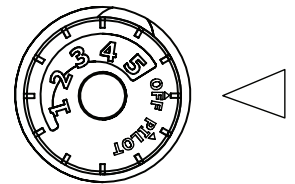
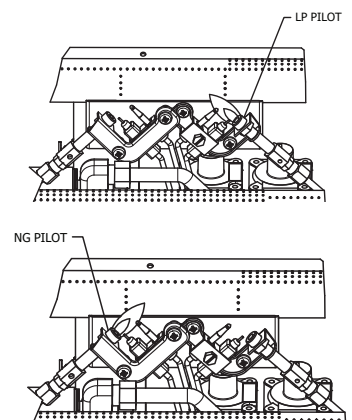

Fig. 15 - Control Knob
Fig. 16 - Pilot
3. Turn control knob clockwise  to the "OFF" position (See Fig. 15).
4. Wait five (5) minutes to clear out any gas. Then smell for gas, including near the floor. If you smell gas, STOP! Follow "B" in the safety information to the left on this label. If you don't smell gas, go to the next step.
5. Turn control knob counterclockwise  to the "PILOT" position (See Fig. 16). Depress control knob.
7. Keep control knob depressed for (30) seconds after pilot lights. Release control knob.
- If pilot goes out repeat steps 3 through 7. Wait (1) minute before attempting to light pilot again. If after several tries the pilot still goes out, turn the gas control knob clockwise  to the "OFF" position and call a qualified service technician.